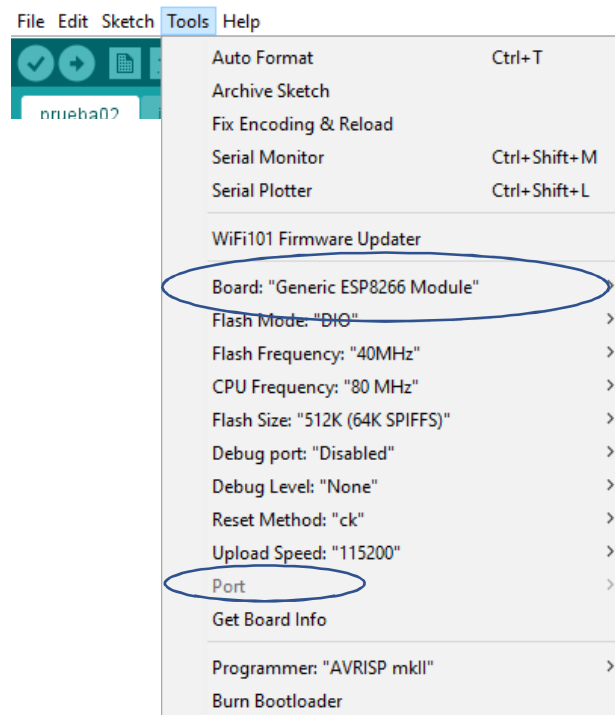

Figure 9: Arduino IDE Board Selection for Flashing the ESP8266-01.
Before uploading the code, select the right board, so that the Arduino IDE will generate the corresponding flash content for the ESP8266 module: “Generic ESP8266Module”. Fig. 9 shows the complete set of options automatically defined when the Tools ==> Board: “Generic ESP8266Module” is selected in the Arduino IDE. Take into account that, unlike that shown in Fig. 9, the Port should be defined as the port in which the Arduino board is identified by the computer. Once defined the Board and Port, it is possible to upload the Arduino sketch, process that will make to store the program in the ESP8266-01 module flash. If the flash fails, it is recommended to unplug the power source (turn off) of the Arduino board and plug it again, so the Arduino UNO is restarted as well as the ESP8266-01 module. If the upload (flash) fails
- 5) Define the Board (Fig. 9 above) and Port in the Arduino IDE “Tools” menu